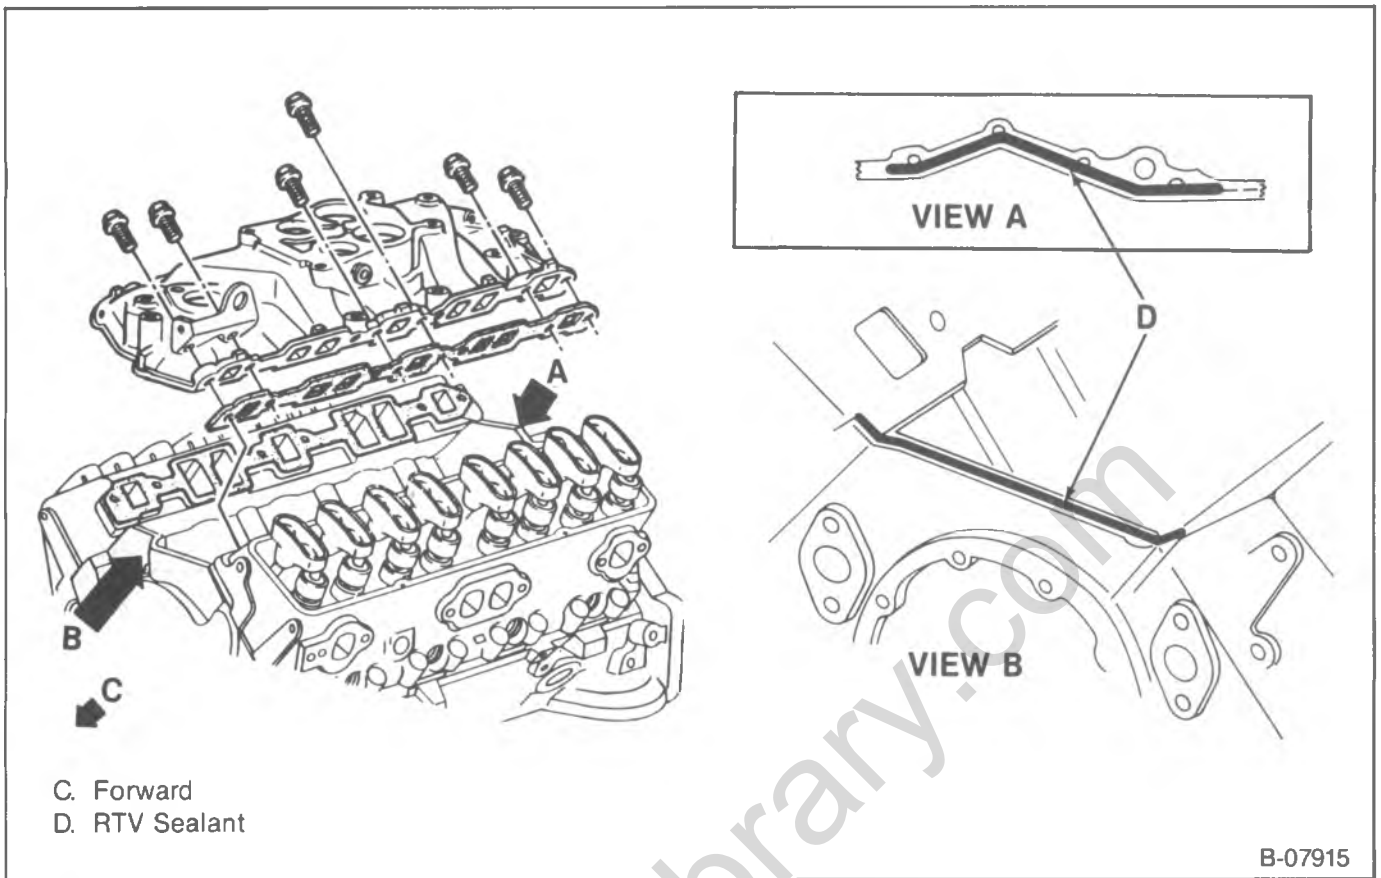

Figure 8—Intake Manifold
Install or Connect (Figures 8 and 9)
2. RTV to the front and rear sealing surfaces on the block (figure 8). Apply a 5 mm (³/₁₆-inch) bead of RTV (part number 1052366 or equivalent) to the front and rear of the block as shown. Extend the bead 13 mm (¹/₂-inch) up each cylinder head to seal and retain the gaskets.